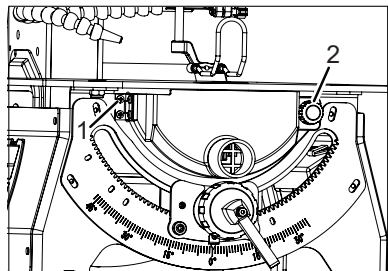

FIGURE 1
1. Secure the dust hood to the machine by threading the Phillips screws (Fig. 1, 1) through the holes in the hinge.
2. Tighten the locking knob (2).